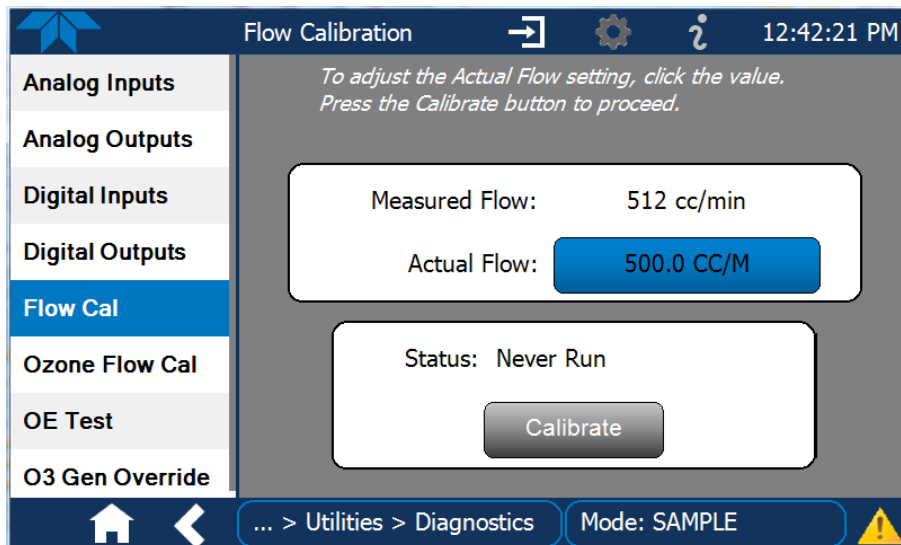

Figure 5-12. Flow Calibration Menu
1. In the Utilities>Diagnostics>Flow Cal or Ozone Flow Cal menu (Figure 5-12), edit the Actual Flow value by inputting the reading from the external flow meter obtained in the corresponding check of the flow to be calibrated.